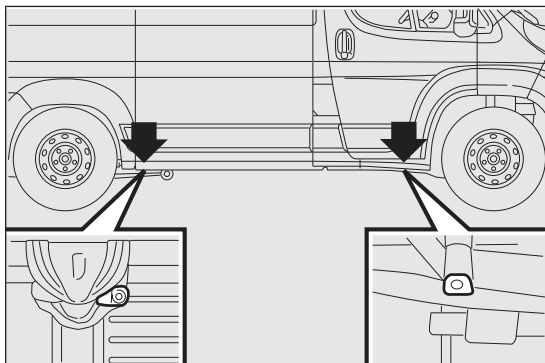
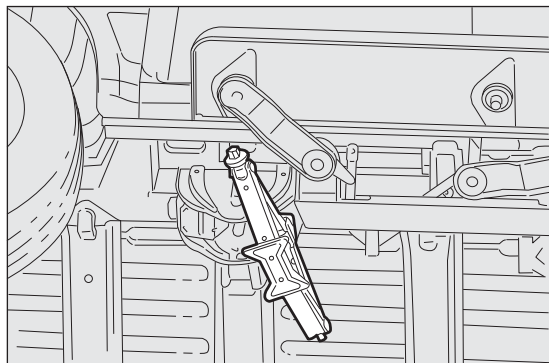

fig. 168
fig. 169
- ☐ arrange the jack near the lift support closest to the wheel to be replaced at the points shown in fig. 168. For short wheelbase versions with retractable footboard, the jack must be positioned at the lift point shown in fig. 169 aligned (45°) so that it does not interfere with the retractable footboard;